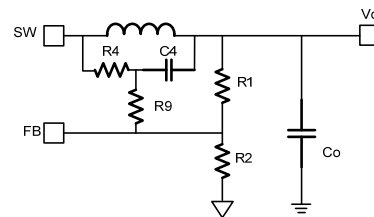

Figure 7: Simplified Circuit with External Ramp
The output voltage is influenced by R4 in addition to the R1 and R2 divider shown in Figure 7. R2 should be chosen reasonably, since a small R2 leads to considerable quiescent current loss while a large R2 makes FB noise-sensitive. Set R2 to be between 5 - 100kΩ, using a comparatively larger R2 when V_{OUT} is low and a smaller R2 when V_{OUT} is high. R1 can then be determined with Equation (4):